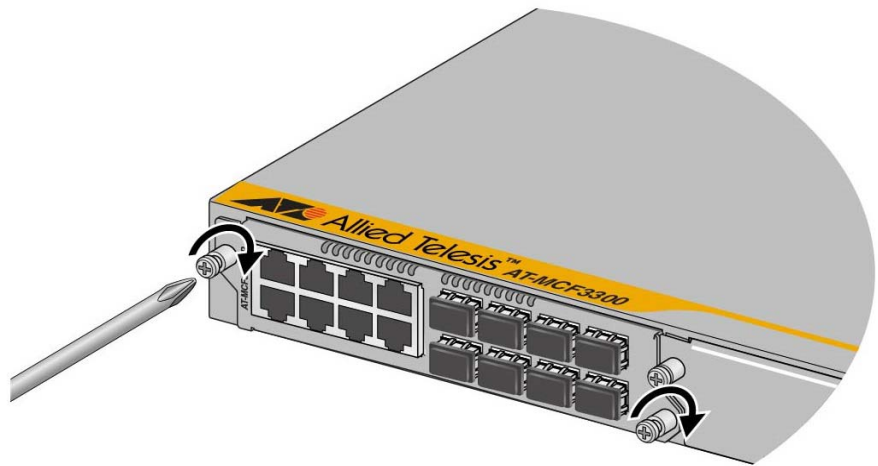

Figure 28. Securing a Media Converter Module
6. Tighten the two captive screws on the media converter module with a cross-head screwdriver to secure it in the chassis. Refer to Figure 28.